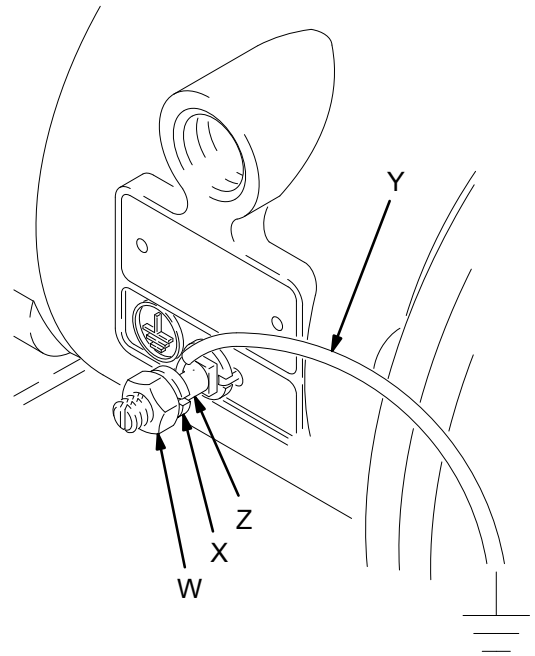

Fig. 1
1. *Pump*: connect a ground wire and clamp as shown in Fig. 1.
**To ground the pump:** Loosen the grounding lug locknut (W) and washer (X). Insert one end of a 12 ga (1.5 mm2) minimum ground wire (Y) into the slot in the lug (Z) and tighten the locknut securely. See Fig. 1. Connect the clamp end of the ground wire to a true earth ground. Refer to the Accessories section to order a ground wire and clamp.